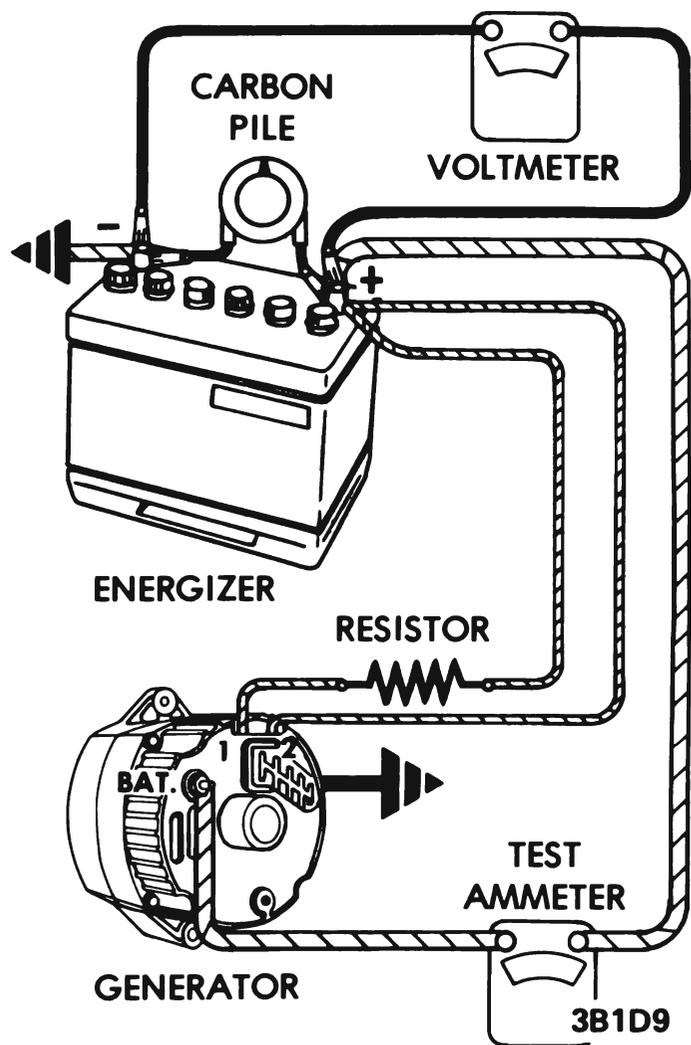

Figure 1D-9 Bench Check Connections
1. Make connections as shown in Figure 1D-9, except leave the carbon pile disconnected.